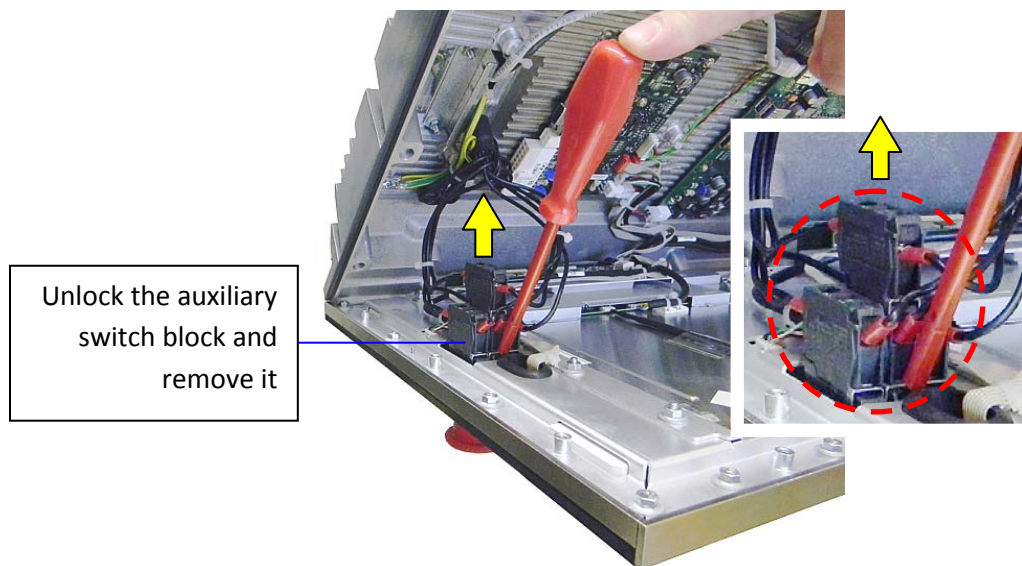

Fig. 27: Unlocking and removing the auxiliary switch block
4. Unlock the auxiliary switch block with a screwdriver and pull it out of its mounting (see Fig. 27).
Legend for Fig. 27:
2. Press the auxiliary switch block of the emergency stop switch (see Fig. 28, Pos.13) into its mounting so that it clicks into place (see Fig. 28, Pos.2 and Fig. 27).